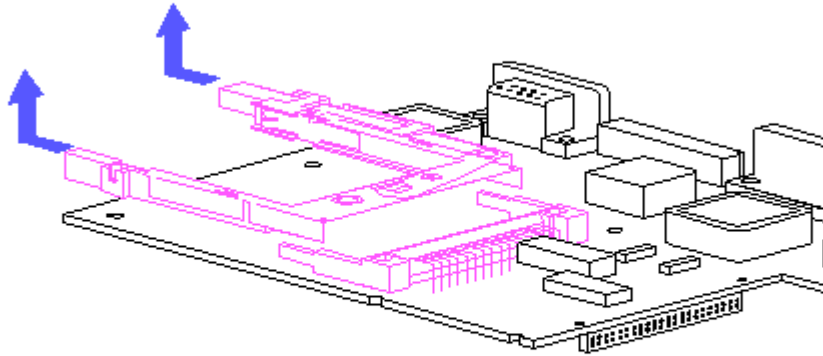

Figure 3-51. Removing the PCMCIA Rails
13. Slide the PCMCIA rails out of the system board (Figure 3-51).